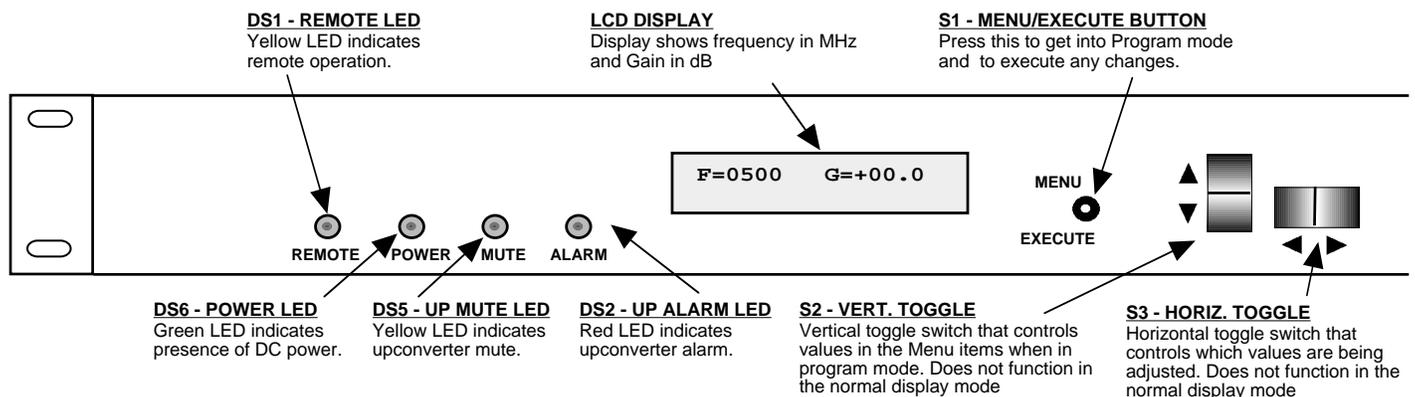

FIGURE 2.3 Front Panel Controls and Indicators
7. Be sure DS6 (green, DC Power) is on and DS2 (red, Alarm) is off (Figure 2.3).
Alarm indications appear on the LEDs (see figure 2.3).